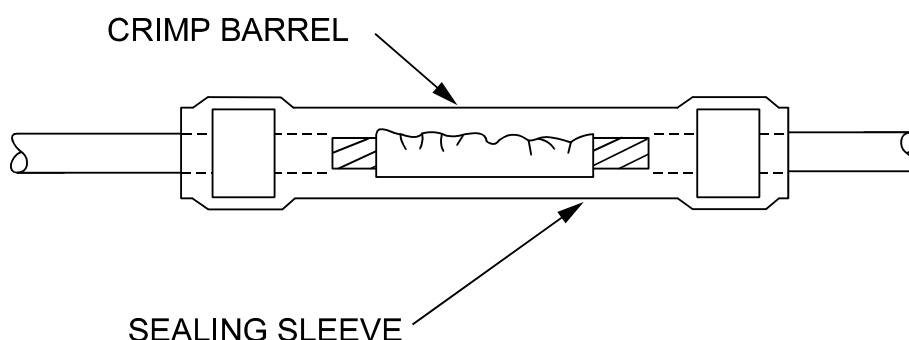

Figure 6-14 Positioning the Sealing Sleeve
- (1) Indent centred on splice barrel,
- (2) Indent in line with barrel,
- (3) Barrel not cracked,
- (4) Wire cannot be pulled out of splice, and
- (5) A gap of 0.8 to 1.5 mm for wire gages 10 through 26, or 1.5 to 3.0 mm for wire gages 6 and 8, should exist between wire insulation and crimp barrel.
n. Centre the sealing sleeve over crimp barrel as shown in Figure 6-14.